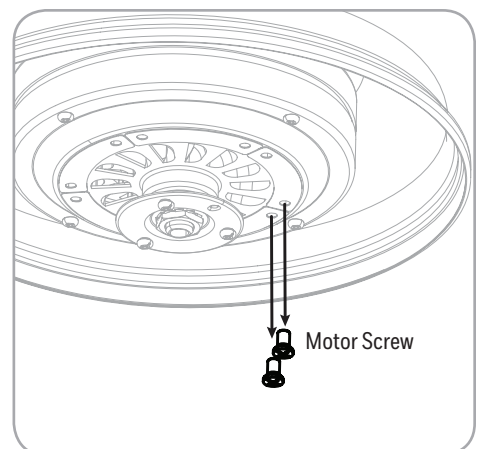

Figure 2.3
3. Remove the 10 motor screws from the underside of the motor. Discard the motor blocks, but save the motor screws for installation of the blade arms (Figure 2.3).